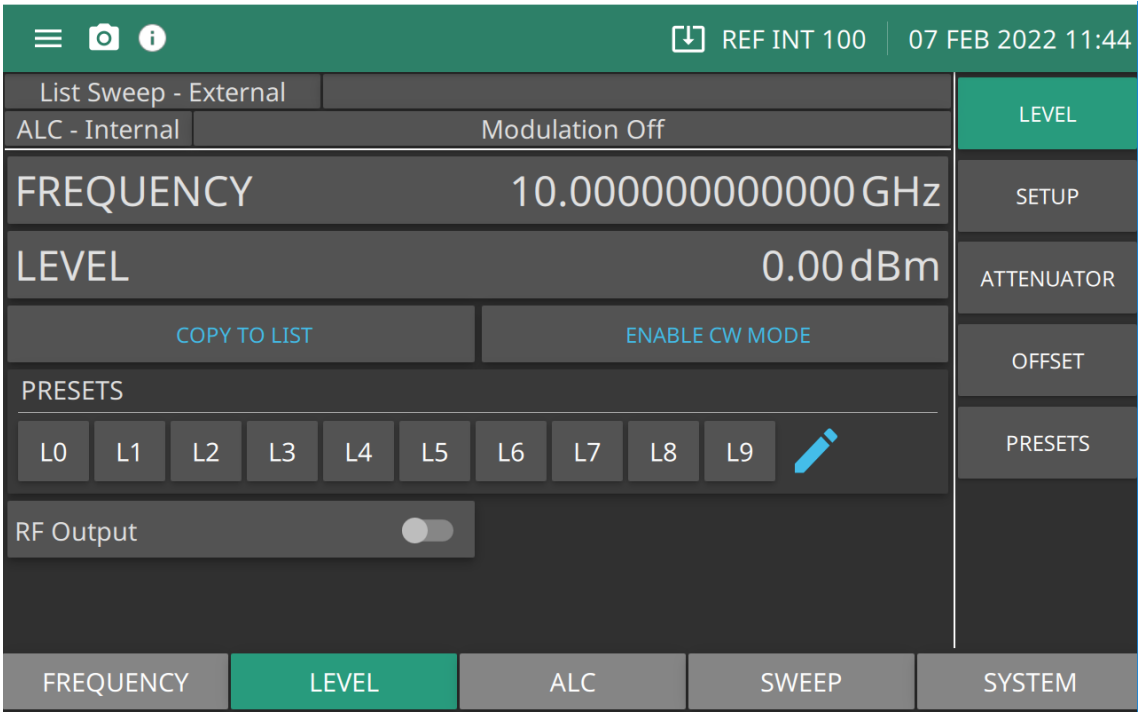

Figure 3-22. LEVEL Menu
- a. Press LEVEL. The Level menu is displayed as shown in Figure 3-22.